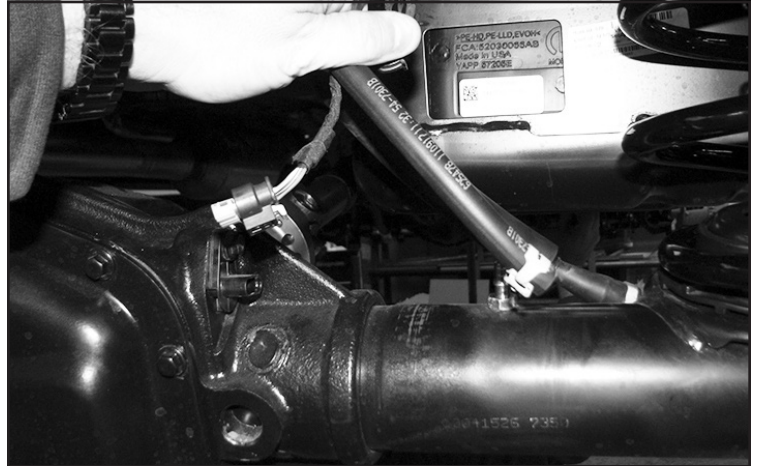

FIGURE 26 - STEP 27
27. Unplug the locker harness from the axle (**RUBICON MODELS ONLY**) **SEE FIGURES 26**